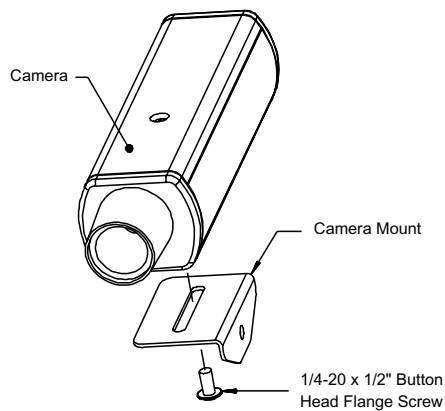

Figure 10: Camera Mount
2. Secure the camera to the camera mount using one 1/4-20 x 1/2" button head flange screw. **See Figure 10 and 11.**